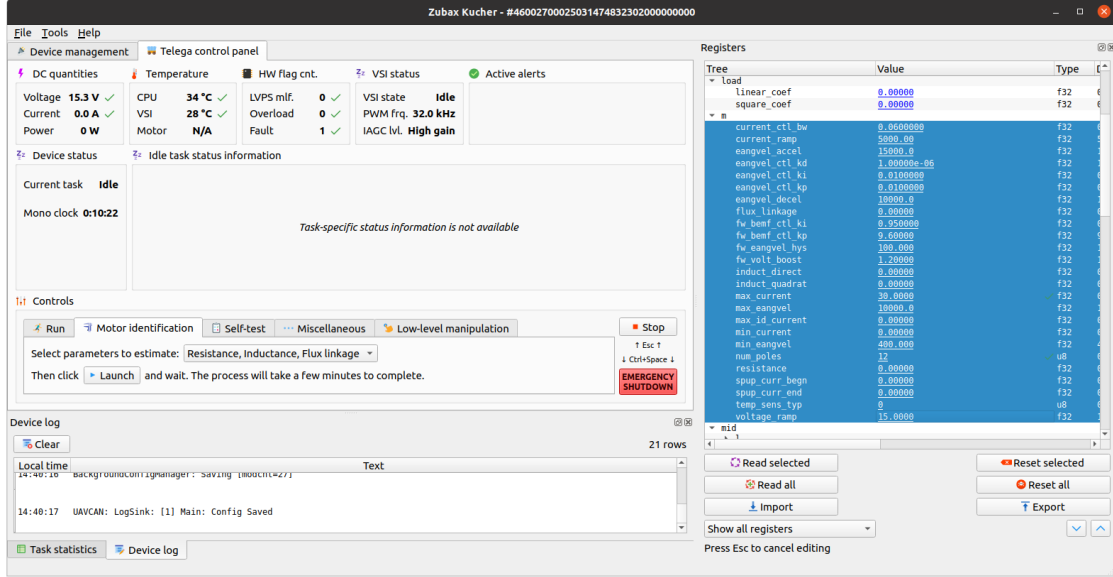

Fig. 3 Writing the motor ID parameters to the ESC using the Kucher interface.
- 9) After identification is complete, highlight all parameters under the “m” list in the registers panel as shown in Fig. 3.